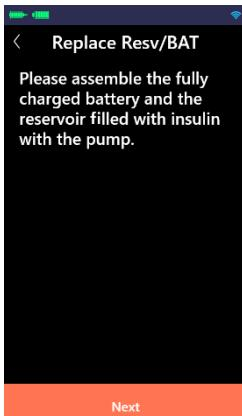

Figure 10.2
(2) Please assemble the fully charged battery and the reservoir filled with insulin with the pump (as shown in Figure 10.2). After the assembly is completed, please click "Next".